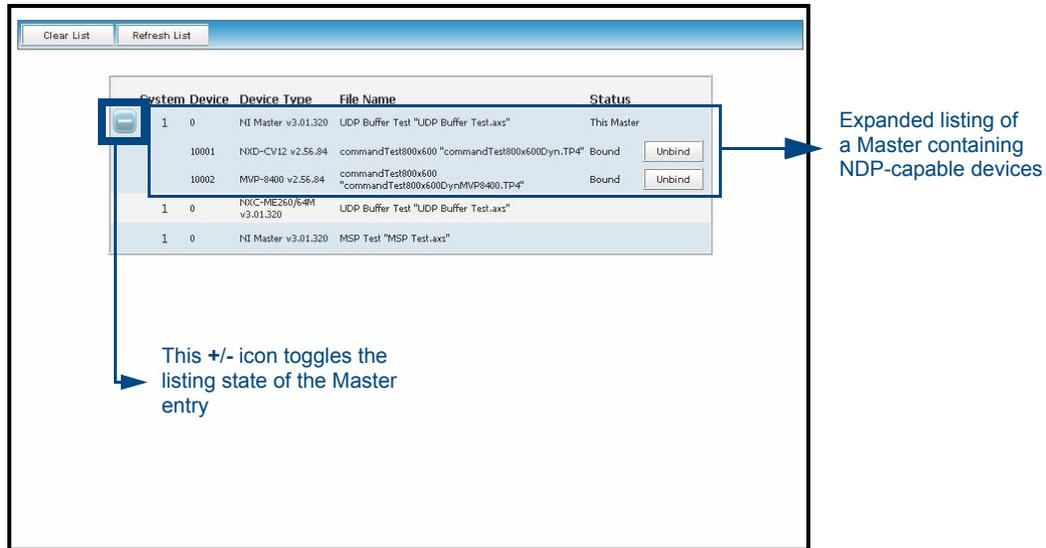

FIG. 62 Manage NetLinx Devices page - showing an expanded view
1. Click the "+" icon to expand the particular Master's listing and reveal those NDP-capable devices connected to it, as shown below in FIG. 62.